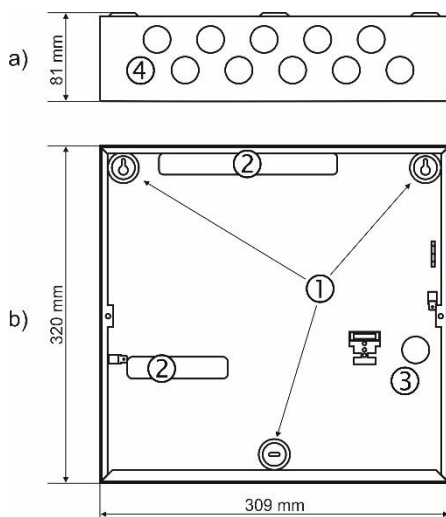

Figure 5 – Elements of the metal bottom:
- Choose inlets for the main power supply cable, zones and sounders circuits, control devices, etc. Remove the knockouts just from those holes used for cable running (Figure 5).